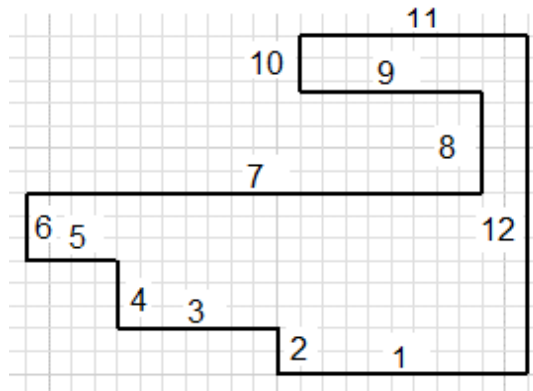

Figure 2-77 Sketch after drawing the lines
3. Move the cursor upward in the graphics window. Next, enter **4** in the length input field, press TAB, and enter **90** in the angle input field and press ENTER; the line 2 is drawn, as shown in Figure 2-77.